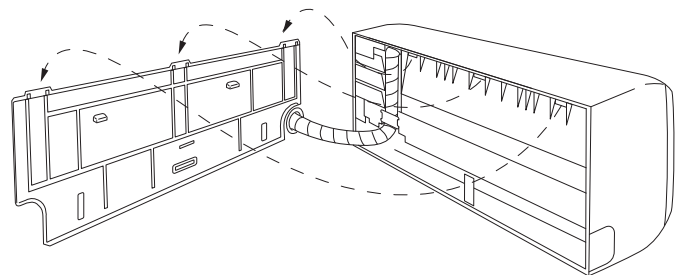
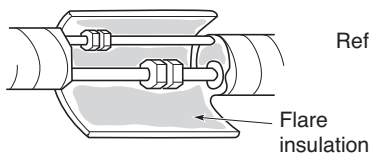

Fig. 36
Fig. 37a
- (2) Push the wiring, refrigerant tubing, and drain hose through the hole in the wall. Adjust the indoor unit so it is securely seated on the rear panel. (Fig. 36)
- (3) Carefully bend the tubing (if necessary) to run along the wall in the direction of the outdoor unit and then tape as far as the fittings. (See Caution on page 25.) The drain hose should come straight down the wall to a point where water runoff won't stain the wall.
- (4) Connect the refrigerant tubing to the outdoor unit. (After performing a leak test on the connecting part, insulate it with the tubing insulation. (Fig. 37a)) Also, refer to Section 5-4. Connecting Tubing between Indoor and Outdoor Units.